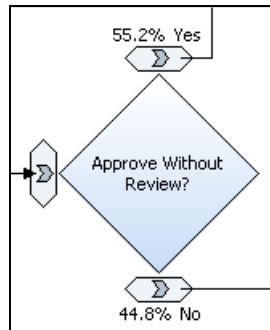

Figure 15-8 Decision block with new percentage values
- ▶ We can see the new percentages for the decision blocks (Figure 15-8).